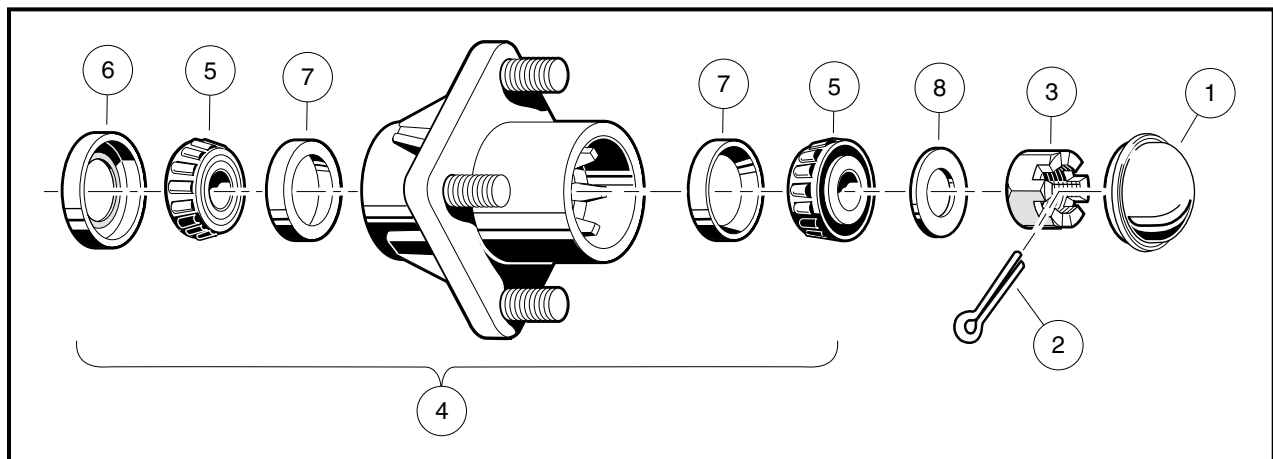

Figure 7-25 Front Wheel Bearings and Hub
2. Using your hands, attempt to rock the wheel and hub assembly back and forth on the spindle. If there is any observable movement of the wheel and hub on the spindle, remove dust cap (1) and cotter pin (2), and then tighten the spindle nut (3) until the bearing (5) fully seats in the bearing race (7).
4. Install a new cotter pin (2). If movement continues, replace the wheel bearings (5) as required (Figure 7-25, Page 7-23).
- 2.1. Remove dust cover (1), cotter pin (2), spindle nut (3), and flat washer (8) (Figure 7-25, Page 7-23).
1. Pack the wheel bearings (5) and hub cavities, and lubricate cups (7) with wheel bearing grease or chassis lube. Make sure the grease is forced between the rollers (**Figure 7-25, Page 7-23**).
2. If bearing cups (7) were removed, press new ones in squarely against stops in the hub.